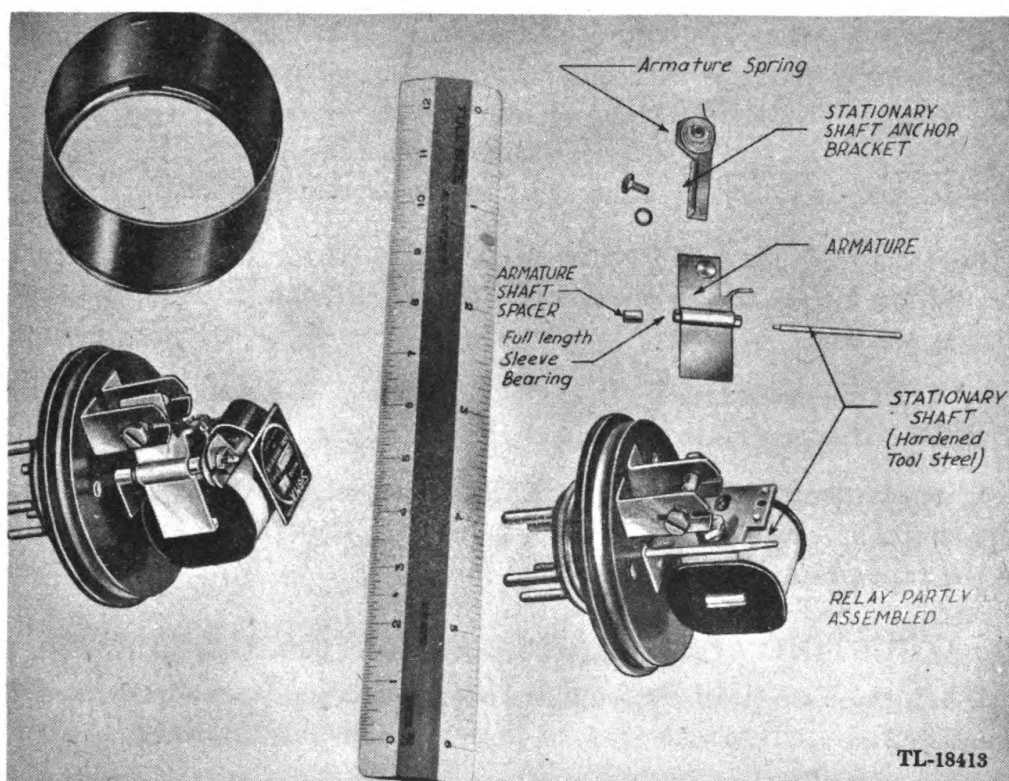

Figure 15. Keying relay.
19. ADJUSTING KEYING RELAY (fig. 15).